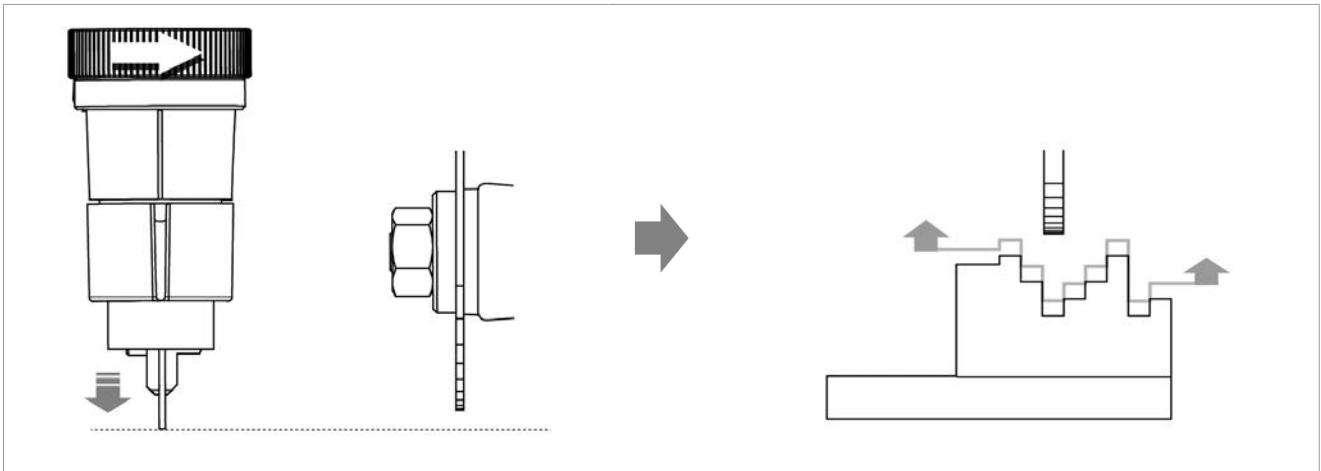

Fig.43
- turn the ring nut (D2) clockwise to move the tracer point forward (less deep cut) (Fig.43).